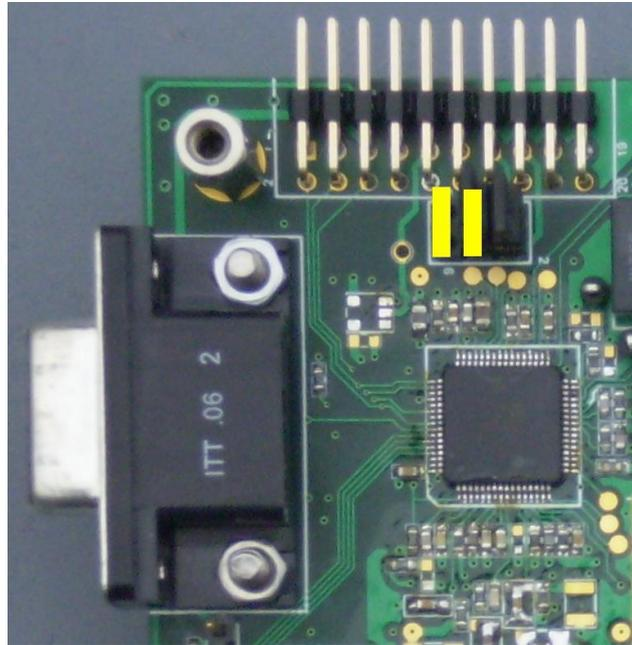

Figure 8 J4 Links 3-4 and 5-6 for C-BUS Operation and Re-programming
- Set the J4 links on the DE70321 for C-BUS operation (3-4 and 5-6 connected, no jumper across 1-2), as shown in *Figure 8*.